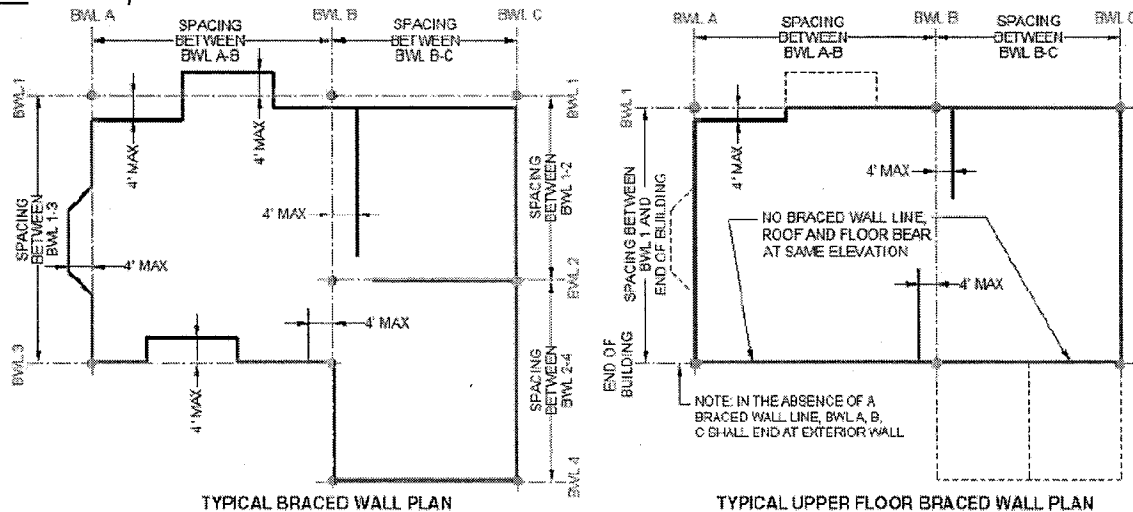

FIGURE R602.10.1.1
6. Submit brace wall plan stamped by engineer showing compliance with the currently adopted IRC. The plan shall **clearly indicate the braced wall lines** (Refer to IRC Figure R602.10.1.1 for sample showing BWL), the braced wall methods used, locations of the methods used at new and modified wall, and reference applicable details already provided. *General notes regarding continuous sheathing or references to code sections will not be accepted.*